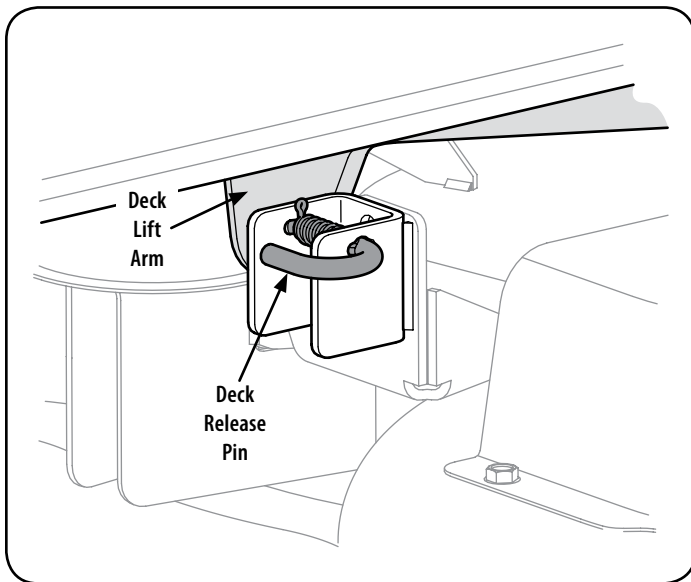

Figure 28
7. Locate the LH and RH deck release pins on each side of the deck. Pull the release pins outward and release the deck from the LH and RH deck lift arms. See Figure 28.
4. Pull the deck release pins outward and maneuver the deck as necessary to align the holes in the deck lift arms with the pins. Refer to Figure 28.